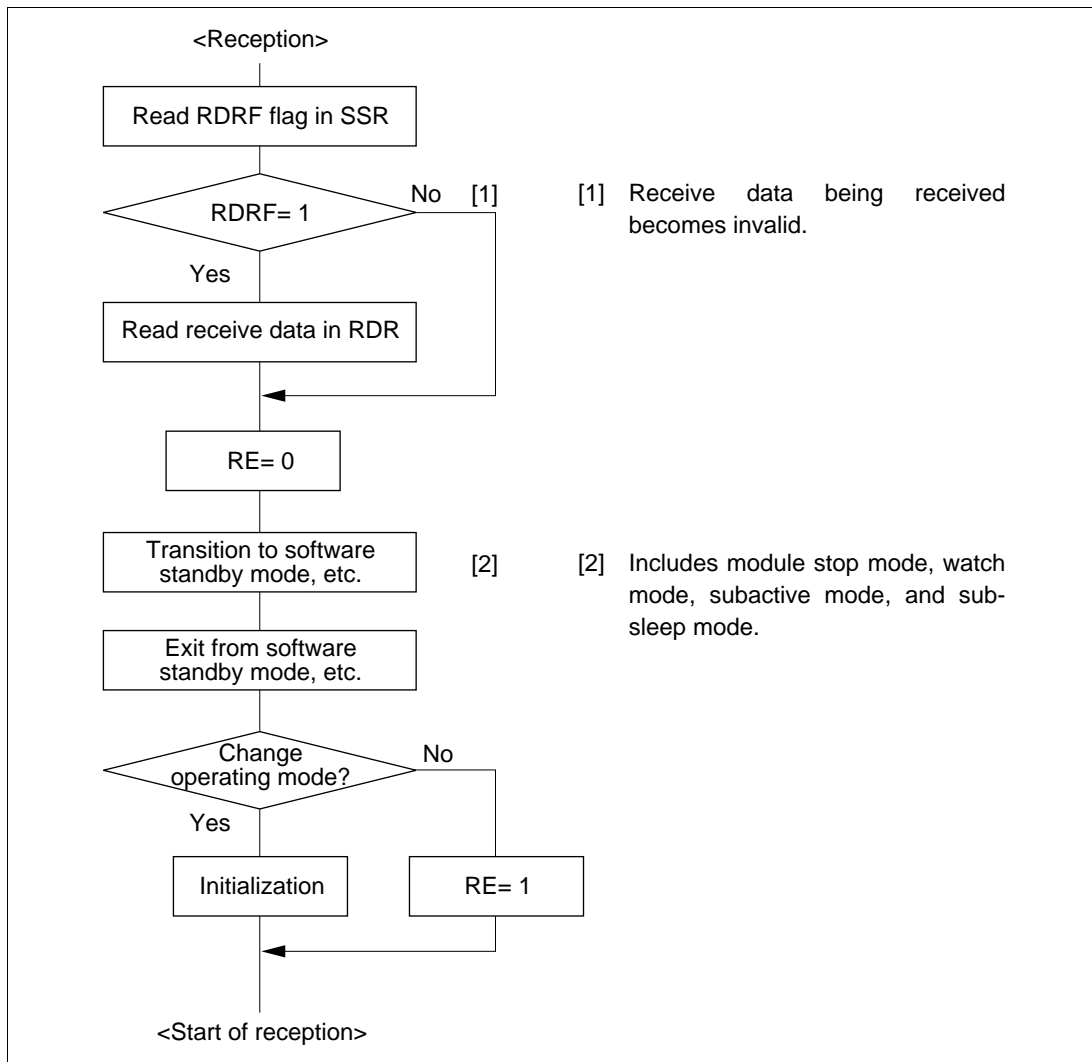

Figure 13-26 Sample Flowchart for Mode Transition during Reception
- Figure 13-26 shows a sample flowchart for mode transition during reception.